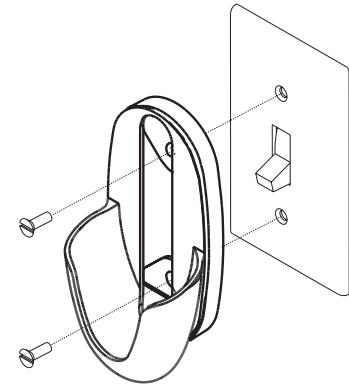

Figure 9d
2. Orient the control cradle as shown in Figure 9d, and line up the two inner mounting holes with those on the switch, insert screws, don't over tighten.